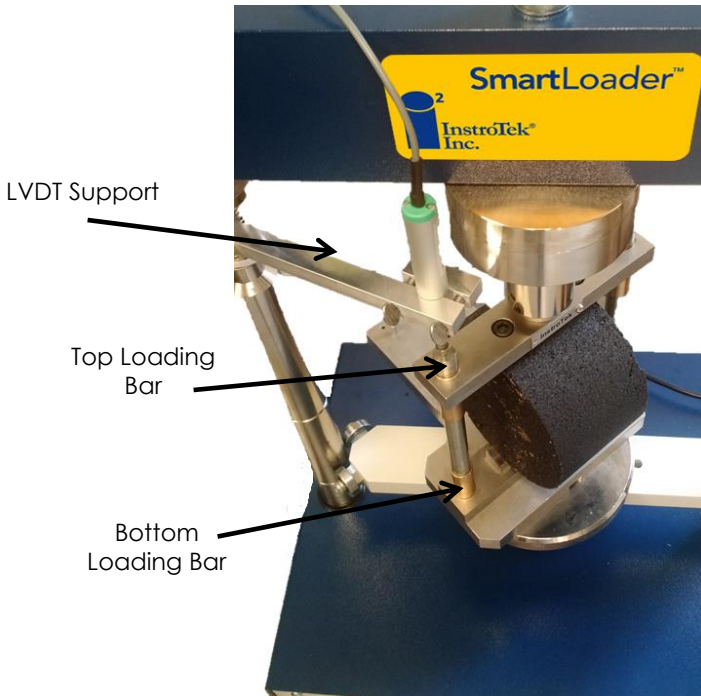

Fig 6. Lottman Breaking Jig with Asphalt Specimen
- b. **IDEAL /TSR** - Insert a specimen into the Lottman Breaking Head jig (Figure 6). Raise the top loading bar and center the specimen on the bottom loading bar. Lower the top loading bar.